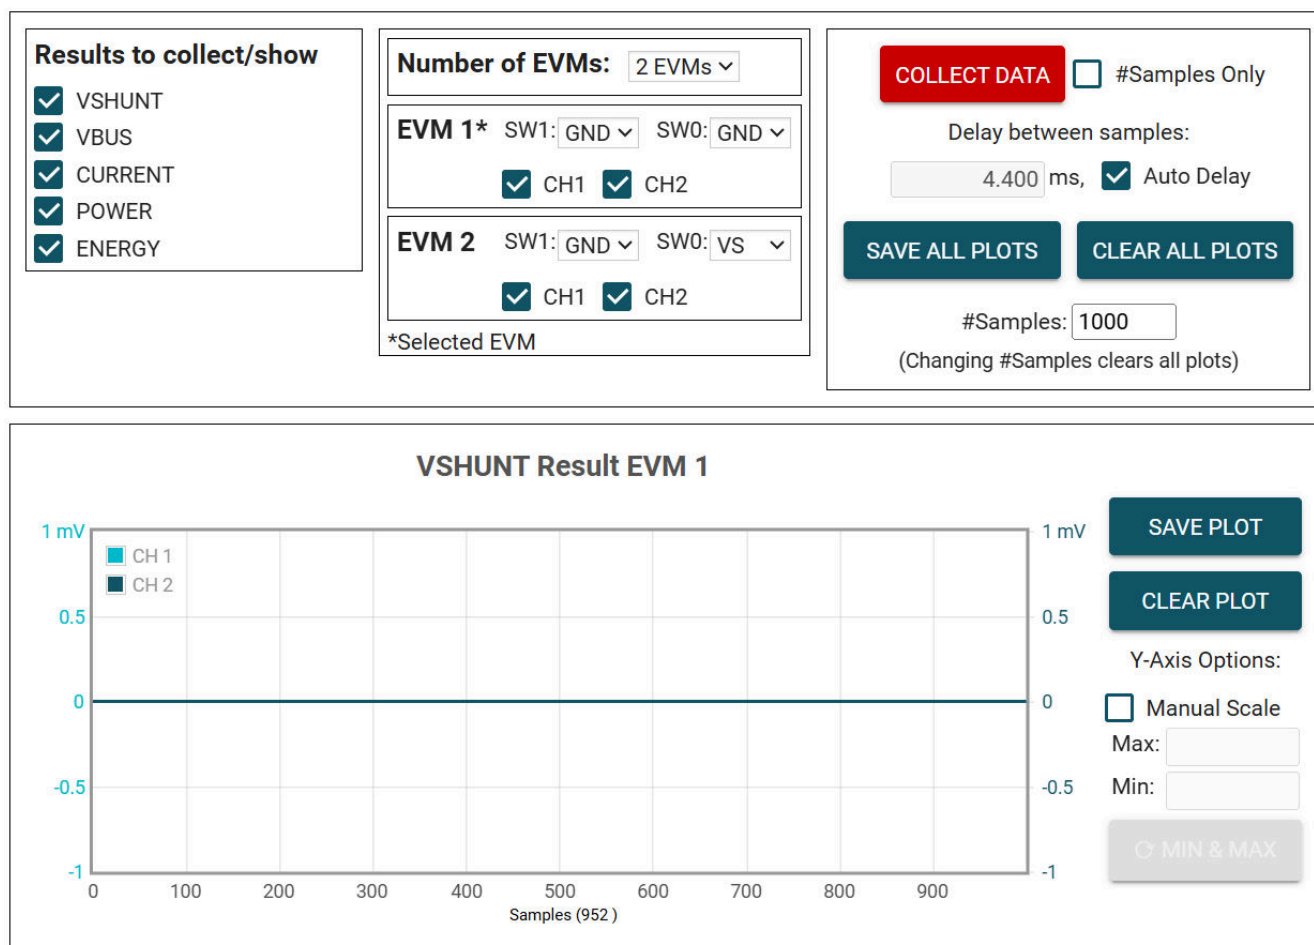

**Figure 3-10. Save and Load Register Settings**
- For convenience, register settings can be saved and loaded back later to any device with the same register map. To do this, go to *File > Register Data*, as shown in Figure 3-10.